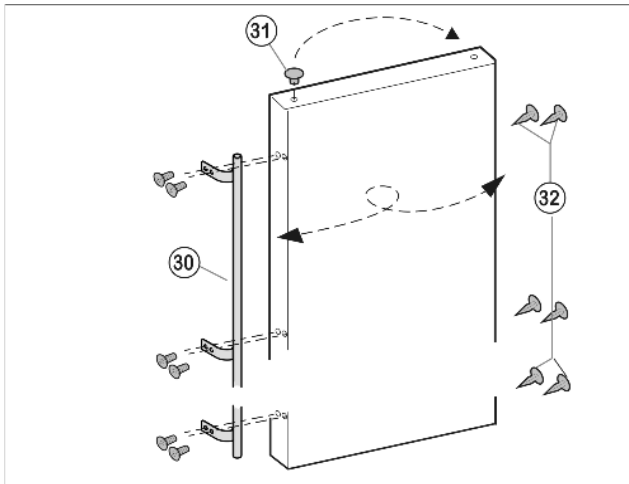

Fig. 22
- ▶ Pull plugs Fig. 22 (31) out of the door bearing bushes and move them to the other side.
- ▶ Detach the door handle Fig. 22 (30) and plug Fig. 22 (32) and move them to the opposite side.